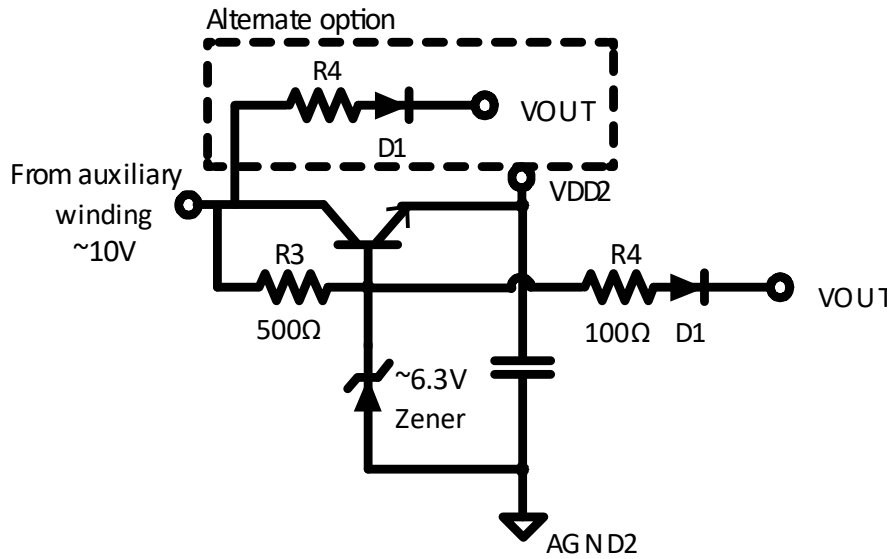

Figure 15. Recommended circuit to Guarantee Hiccup Mode Showing Typical Values
2. When VDD2 is powered through auxiliary winding or another configuration, when a short circuit occurs on the output terminals, the auxiliary winding is not shorted and maintains a positive voltage above the VDD2 UVLO threshold. To enter hiccup mode, the following circuit is recommended, as shown in Figure 15. The circuit operates as follows: when the output voltage goes low due to a short circuit, the D1 diode turns on, which pulls the base of the BJT { Bipolar Junction Transistor} low, shutting off VDD2. The system then enters hiccup mode, as described in the **Error! Reference source not found.** section.